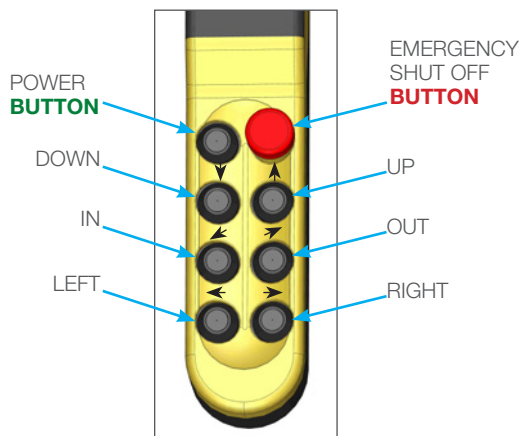

**FIGURE 2**
2. Plug the Wire Cables into the Yellow Jacket, being sure to mate the Rotation, Lift, and Winch, as shown in **(Figure 2)**.
2. Connect the Winch Cable to the Shackle on the Lance Assembly. Use the "IN" and "OUT" buttons on the Remote Control Panel to extend the cable to make the connection. **(Figure 2)**